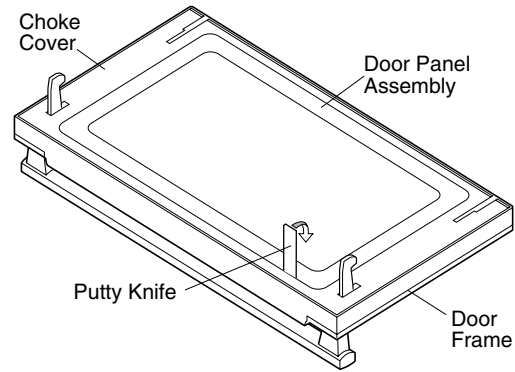

Figure C-8. Door Disassembly
8. Insert a putty knife (thickness of about 0.5 mm) into the gap between the choke cover and the door panel assembly as shown in Figure C-8.